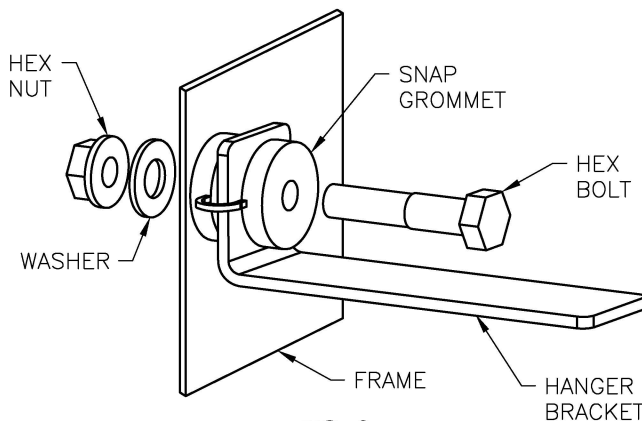

FIG. 3
**Step 2:** Begin installing the new system by fitting the new mufflers, tailpipes and tru-x assembly into place for a mock up fitment, as shown to the left. This will help to determine where to drill the frame or floorboards for the muffler and tailpipe mounting brackets as shown in Fig. 1 & 3. If the OEM mounting points will not work, fasteners are supplied to be used in place of the hex head bolts if required. Use a 1/2", drill bit for the bolt/nut combo, or use a 5/16" drill bit for the tri-lobular sheet metal screws. You should now also be able to determine where to trim and or modify the inlet pipes if needed. With the system loosely installed, adjust the components for at least 1/2" clearance, including areas with moving parts (axle, driveshaft, etc.). Once a proper fit for the complete system has been achieved using the supplied clamps, the inlet pipes can be welded to the manifold or header flanges. Once the tailpipe brackets are bolted in place as shown in Fig. 3, they can be bent and welded to the tailpipe.